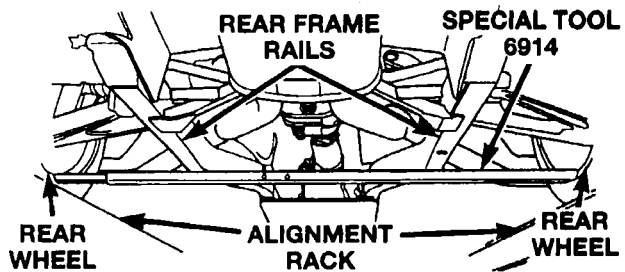

Figure 50
- a. Install front and rear Vehicle Height Checking Fixture (Special Tool #6914) at the base of both inner flanges of the front and rear wheels as shown in Figure 50.